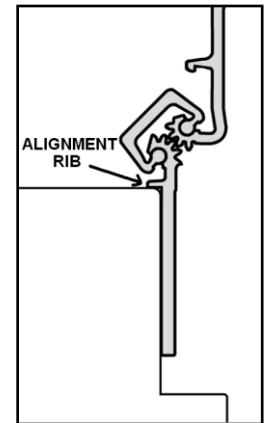

Fig. 1
1. With the hinge open, place the hinge frame leaf against the frame rabbet making certain that the alignment rib is flush against the frame face along its entire length. (See Fig. 1) Position the top of the hinge 1/16" (**1/8" maximum**) below the header.